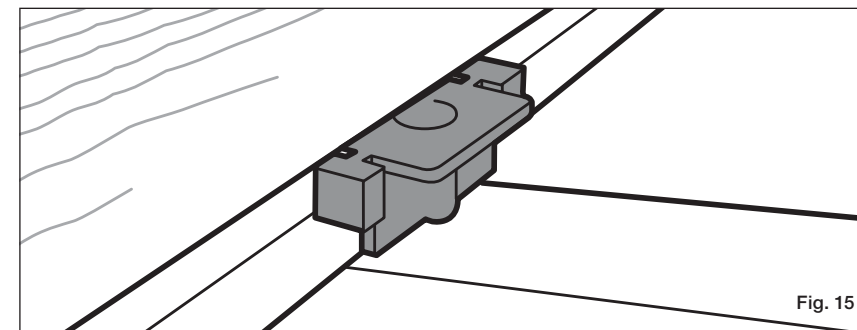

Fig. 15
**Step 6** Install a Stowaway hidden fastener clip over the screw and centered over the joist. Fasten using preset screw at a 90° angle through the Stowaway hidden fastener and drive flush with the clip (Fig. 15). The fastener wings must remain level with the joist for the next board to fit correctly (Fig. 16).